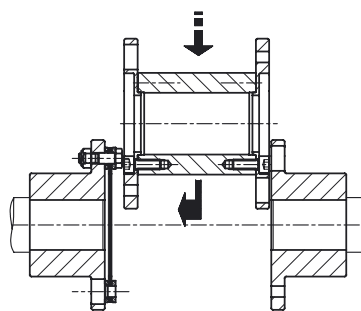
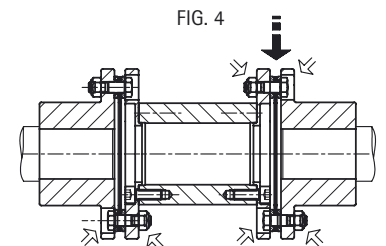

FIG. 3
FIG. 4
4.1.5 Install the spacer (4) between the hubs and connect it to the already assembled disc-pack (3) with screws (2) and nuts (5), in the direction shown on the fig. 3 (in case of long spacer, it is essential to support the spacer in position from the beginning to the end of the assembly). Tighten to torque T mentioned in the tabulation while holding the screws still and turning the nuts.
4.1.6 Engage the second disc-pack (3) between the spacer (4) and the second hub (1) and assemble with screws (2) and nuts (5) as indicated in (fig. 4).
- 4.1.5 Ensure that both hub faces (8) and (9) and sandwich flange (1.3) are perfectly degreased. Introduce floating assembly between the two hubs (fig. 3). Remove the shipping screws (15) with rings (17) and shipping inserts (16) at each end (fig. 4). The floating assembly must be maintained in position by the two hubs (8)